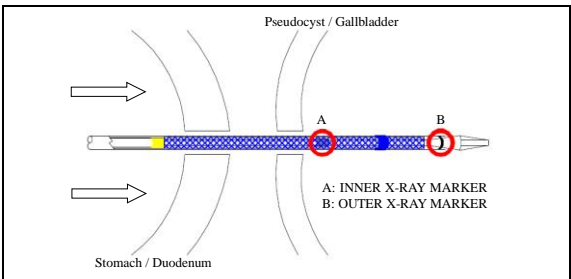

Figure 3
- a) Under the fluoroscope and endoscopic guidance, position the Electrocautery Stent Delivery System [HDS-10]. Inner X-ray marker (‘A’ of Figure 3) should pass through the wall of a pseudocyst or gallbladder.